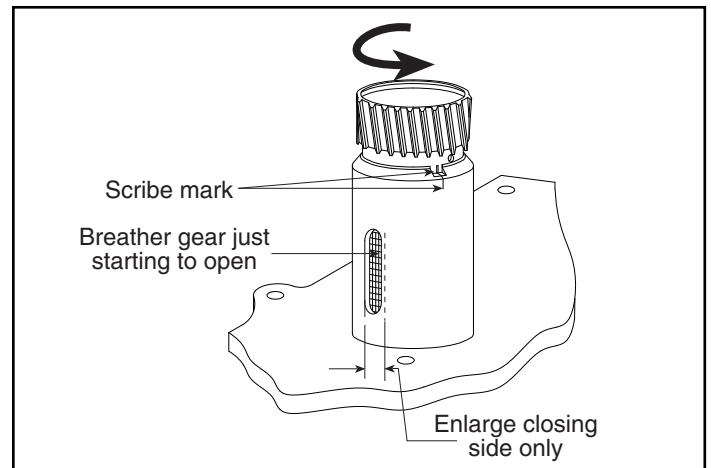

Figure 5
- Before installing oil pump, turn pump gear counterclockwise until sleeve hole in gear aligns with slot in pump body. Place .002" shim in opening and reverse gear until tight. Scribe mark across pump gear sleeve and pump body at small timing notch on top edge of body. See Figure 5.